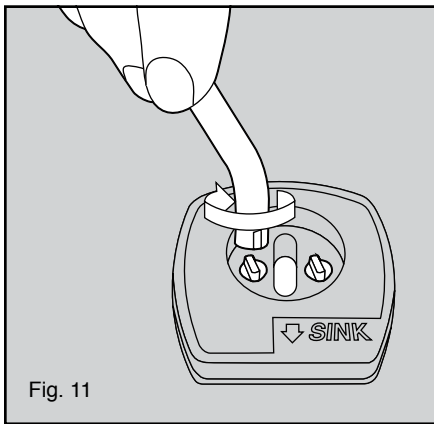

Fig. 11
12. Use the hand tool provided to complete the tightening of the support shaft. Tighten in a clockwise direction (see figure 11).